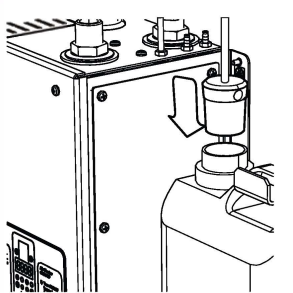

Fig 18b
4. Replace cap with the push-fit cap pre-connected to the soap tube (See figure 18b).